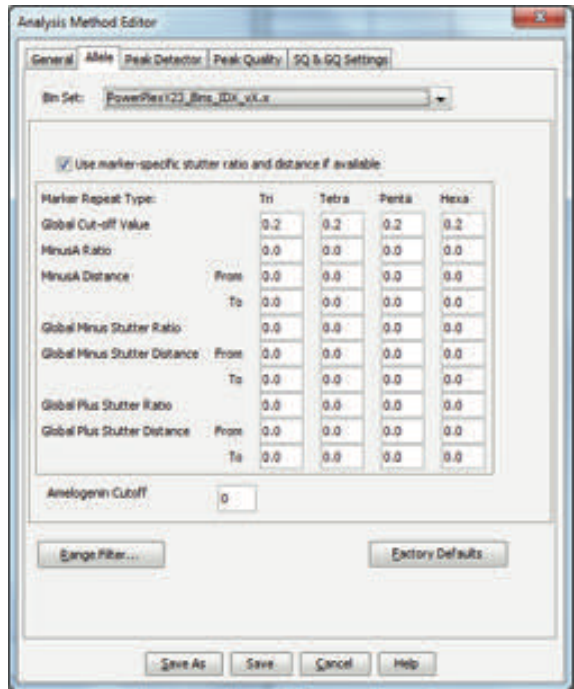

Figure 16. The GeneMapper® ID-X Software Allele tab with settings for using a 20% peak filter.
6. Select the Allele tab (Figure 16).
8. Ensure that the “Use marker-specific stutter ratio and distance if available” box is checked. Doing this will assign locus-specific stutter filters and distances from the imported stutter file. Ensure that the appropriate global filter is applied to this analysis method. For example, for a 20% filter enter “0.20” for the Global Cut-off Value for Tri, Tetra, Penta and Hexa repeats (Figure 16).